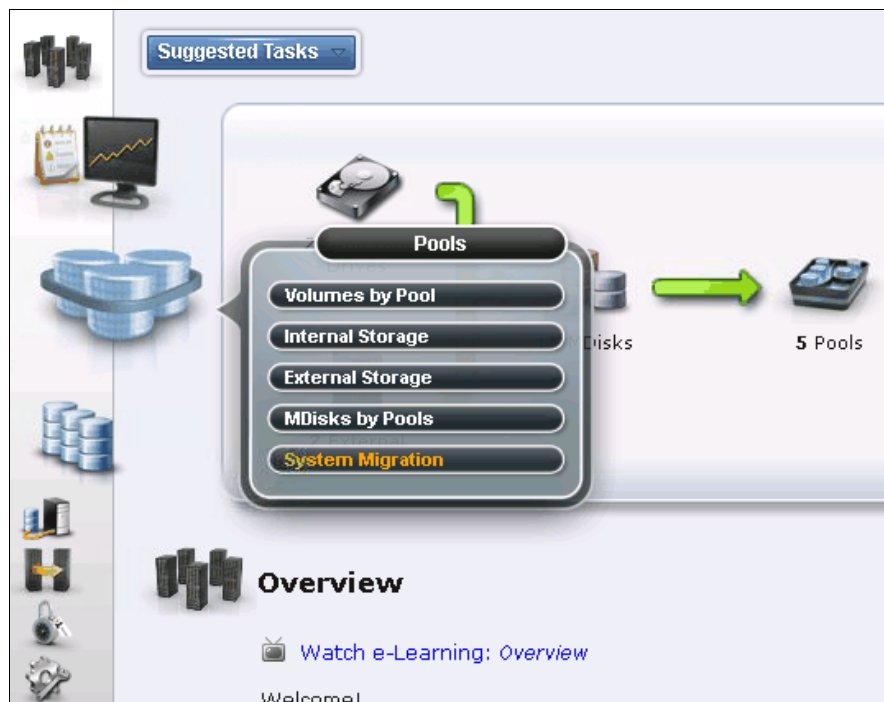

Figure 6-2 Pools function icon with Migration option
- Click the **Pools** icon and click **System Migration** (Figure 6-2).